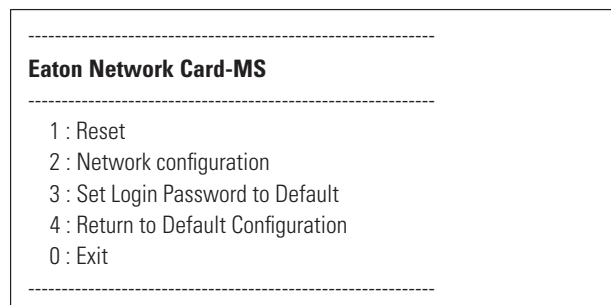

Figure 43. Network Card-MS Main Menu
3. Enter the **admin** password (not modifiable). The Network Card-MS main menu displays (see Figure 43).